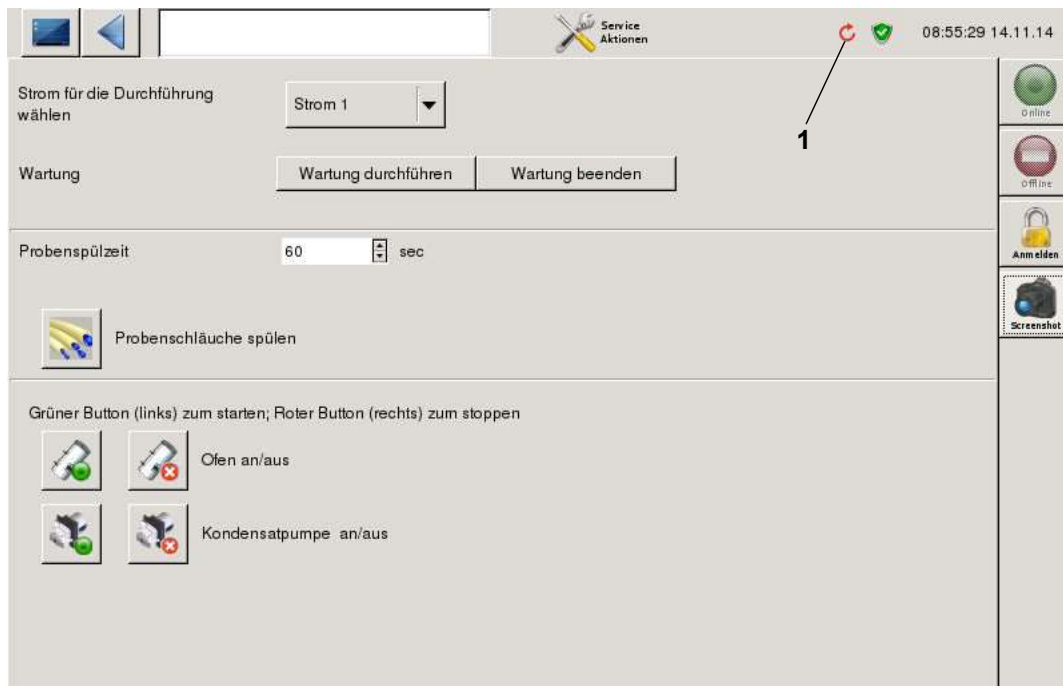

Fig. 58: Service actions - „Perform maintenance“
1. Select sample current (Fig. 58, page 90) via the "Select current for the execution" button.